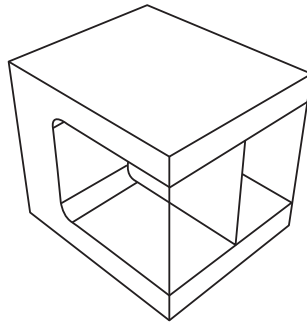

Figure 11-4 Wire features.
3. Rods are added to the corners as wire features. The wire was created by connecting two points that the user selected, as shown in Figure 11-4. Wires created in this way have no modifiable parameters; they must be deleted and recreated if you need to change them.